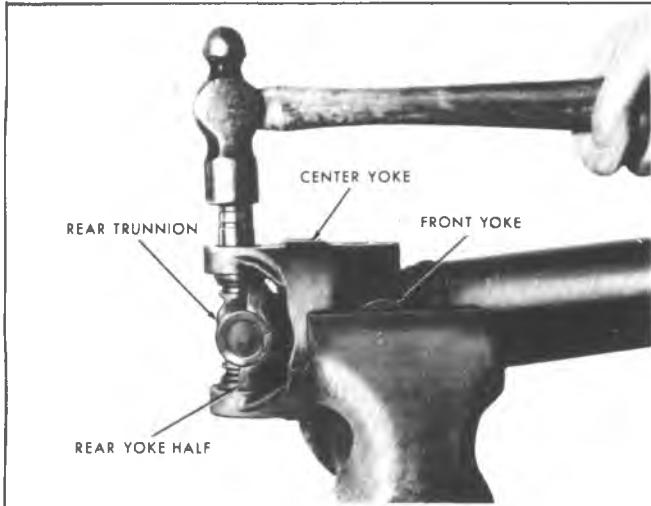

Fig. 4A-20--Driving Out Bearing Cups
3. Place propeller shaft in vice as shown in figure 4A-20.